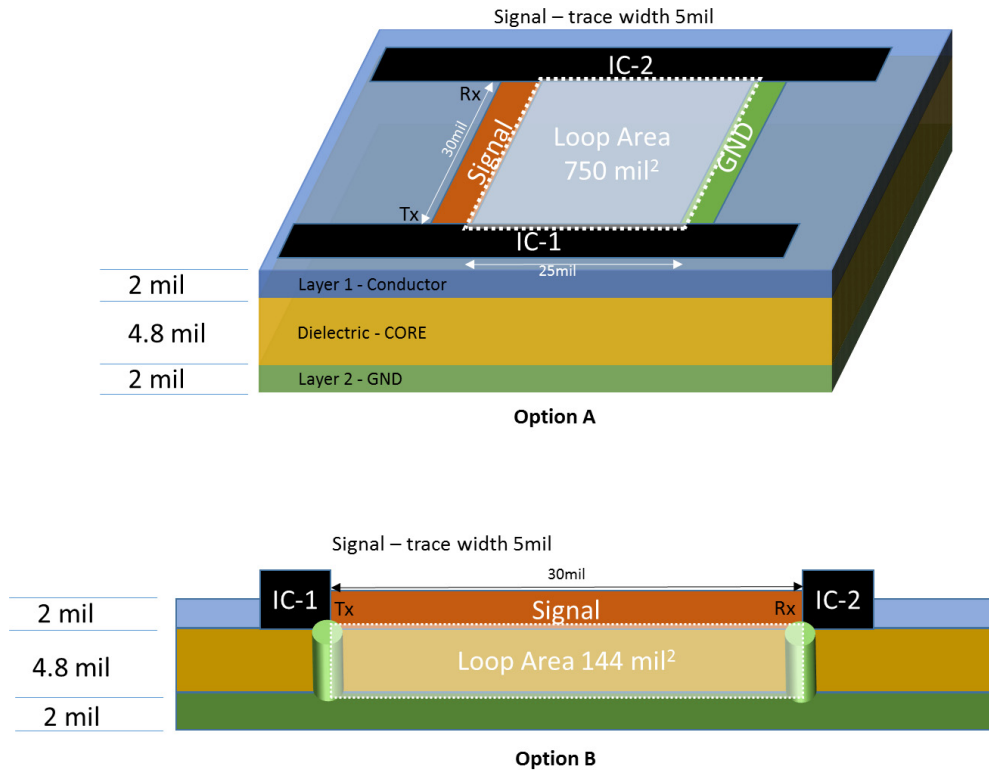

Figure 7. Loop Area Comparisons Using Adjacent Ground Layer Recommendations
11. Using GND traces to isolate high speed signals and their use as return current path has benefit only in PCB which does not have a dedicated ground plane. If the design has a ground layer using that plane for return current path provides smallest possible loop area. Comparing Option A v/s Option B in Figure 7 will provide an idea on the smaller loop area by using an adjacent ground plane for return current path. Using guard traces take up PCB real estate without much perceivable benefit.